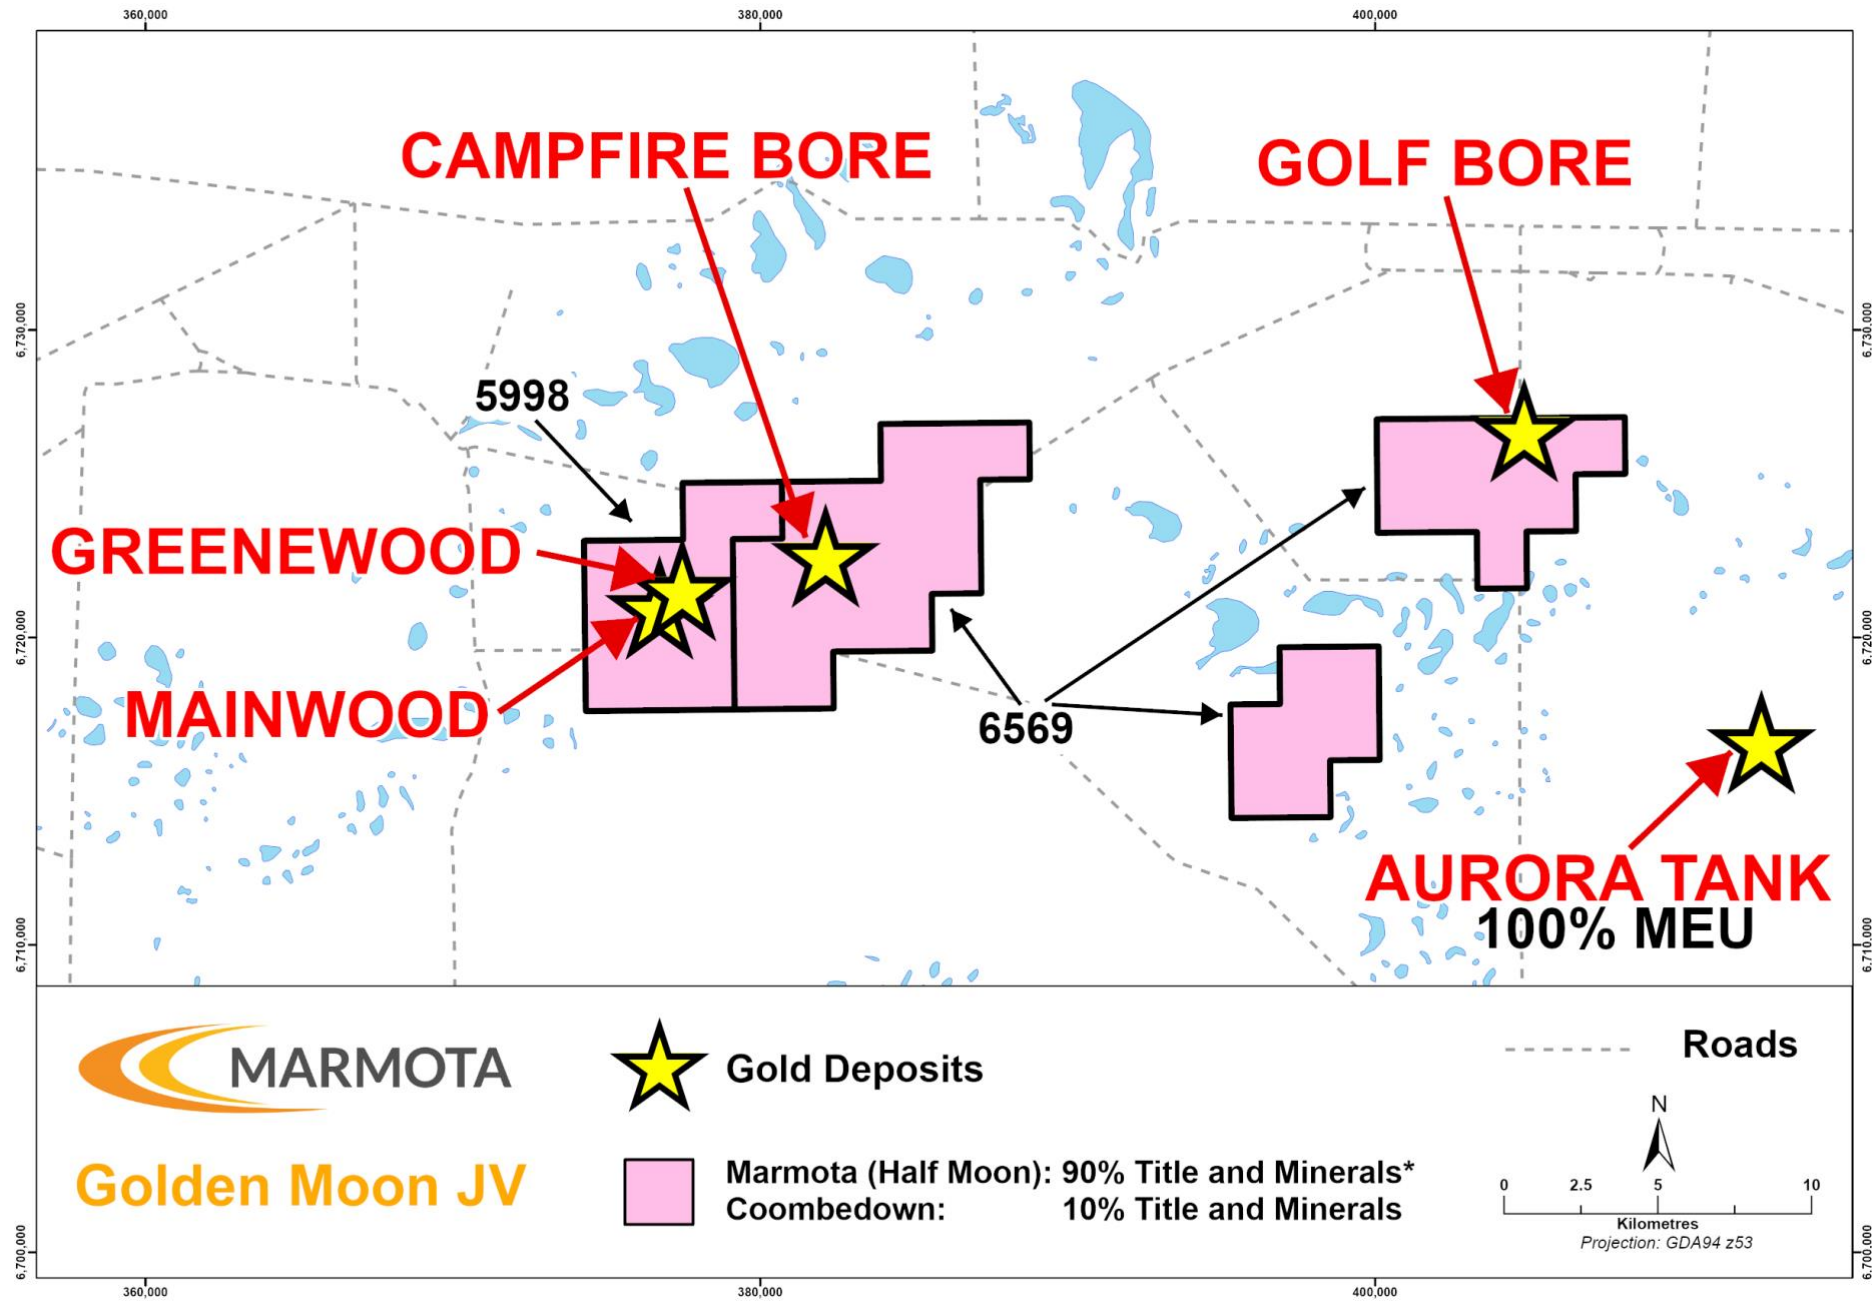

Figure 4: Location of Greenwood and Golden Moon JV deposits adjacent to Marmota's flagship Aurora Tank deposit
- Greenwood is located ~35km NW of Marmota's flagship Aurora Tank gold deposit see [Figure 4] and ~ 30km NE of the Challenger Gold Mine.
- Greenwood's proximity to Marmota's flagship Aurora Tank gold discovery (100% owned) creates obvious economies of scope and scale that are patently attractive see [Figure 4].
Marmota's Gawler gold project comprises an arc of gold deposits along the flanks of the major 'Y'-shaped gravity anomaly in the NW Gawler Craton. The '**Arc of gold**' deposits include (from east to west: see Fig. 4):